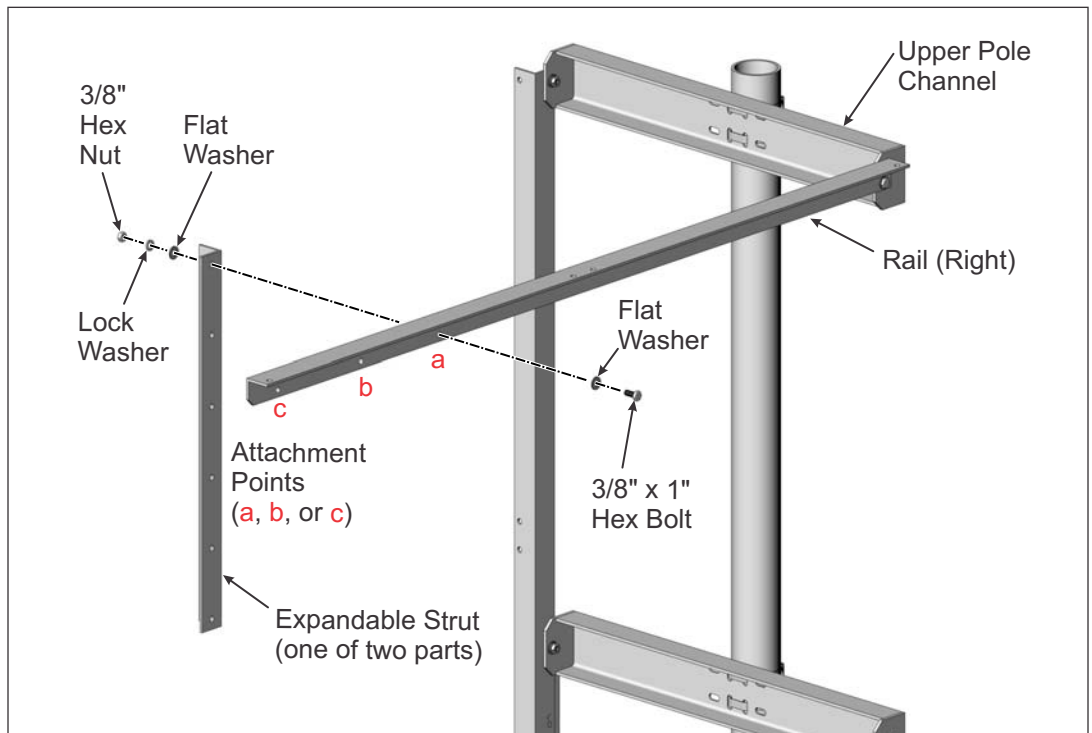

Figure 4-1: Attaching Second Half of Expandable Struts to Rails
- A. Using the corresponding attachment point that sets the desired tilt, attach the Struts as shown in Figure 4-1. Secure with one 3/8" x 1" hex bolt, lock washer, flat washers, and Hex Nut, and finger tighten for now.